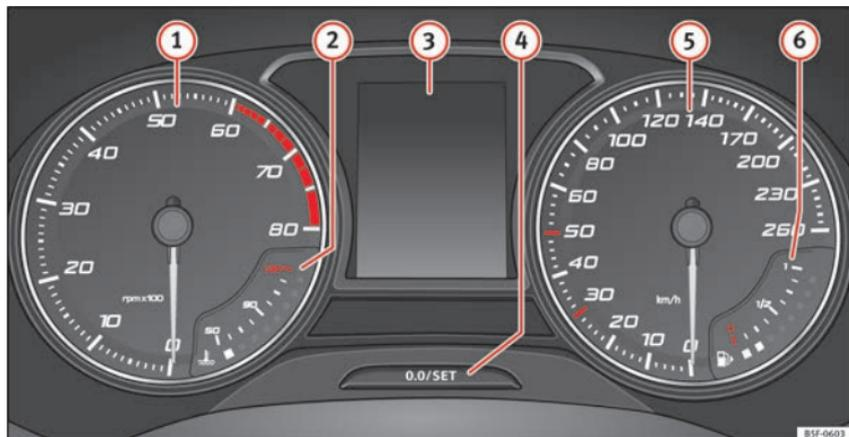

Fig. 120 Instrument panel, on dash panel.
Details of the instruments » **Fig. 120:**
A variety of information can be viewed on the instrument panel display » **Fig. 120** **3**, depending on the vehicle equipment:
- Briefly press the button » **Fig. 120** **4** to reset the trip recorder to 0.
- To set the time, keep the button » **Fig. 120** **4** pressed for more than 3 seconds to select the hour or minute display.
Hold the button **»» Fig. 120 ** down for more than 15 seconds to display the identifying
The rev counter indicates the number of engine revolutions per minute » **Fig. 120** ①.
Never allow the rev counter needle ① » **Fig. 120 to go into the red zone on the scale for more than a very brief period, otherwise there is a risk of engine damage.**
The coolant temperature gauge ② » **Fig. 120** only works when the ignition is switched on. In order to avoid engine damage, please read the following notes for the different temperature ranges.